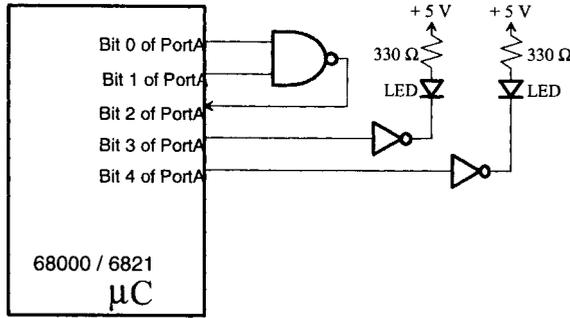

FIGURE P10.28 (Assume both LEDs are OFF initially).
- 10.28 A 68000/6821-based microcomputer is required to test a NAND gate. Figure P10.28 shows the I/O hardware needed to test the NAND gate. The microcomputer is to be programmed to generate the various logic conditions for the NAND inputs, input the NAND output, and turn the LED ON connected at bit 3 of port A if the NAND gate chip is found to be faulty. Otherwise, turn the LED ON connected at bit 4 of port A. Write 68000 assembly language program to accomplish this.